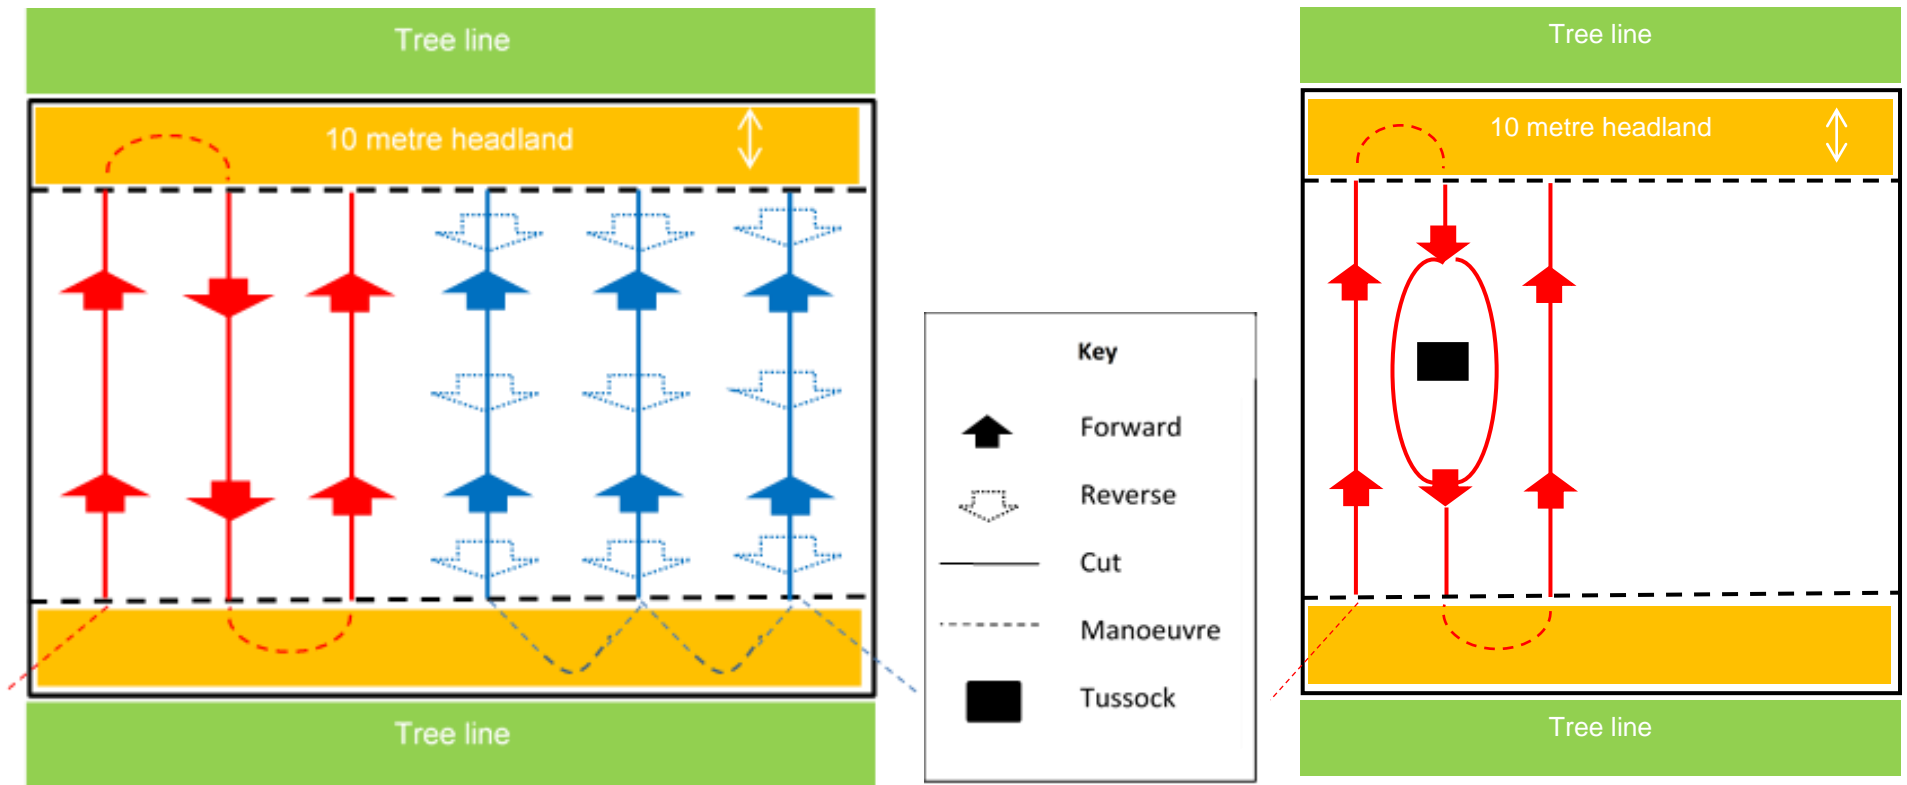

Figure 1: Fen harvester routes and manoeuvring
- Aim to leave a 10-metre headland of uncut material which can be used as a turning area for the machine. The uncut material creates a barrier between the harvester and the peat layer helping to reduce any damage to the soil structure. When the ground is particularly soft, it is recommended to track over the cut route only once (*see figure 1*, red route). Additionally, raise the cutting bar when manoeuvring within the retained headland so that a mat is created when driving over the reed. Where conditions allow and the first pass has not compacted the ground, it may be suitable to reverse along the same route, manoeuvring in the headland and cutting the next pass in the same direction as the first (*see figure 1*, blue route).
- Cut in a straight line and turn on the headland (see Figure 1 below).